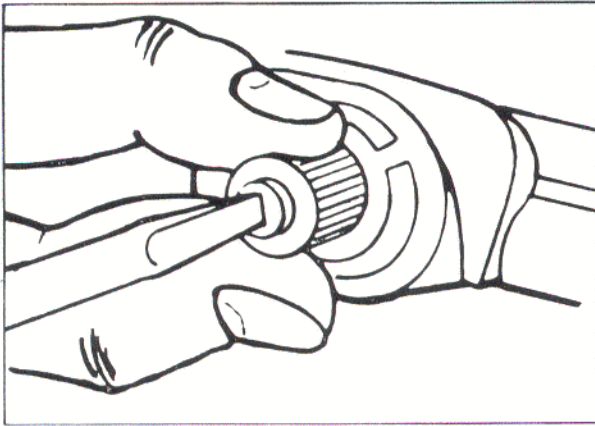

Fig. 2
4. Loosen the screw in the end of the transmission shaft approximately $\frac{3}{4}$ turn (fig. 2). Tap